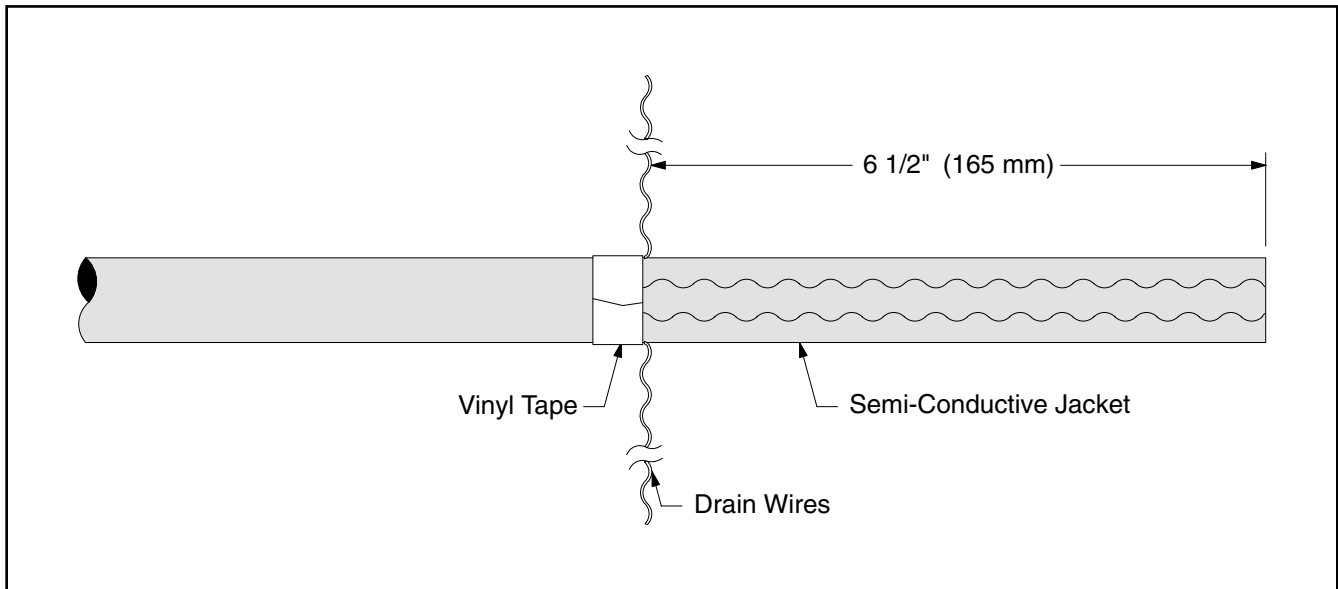

Figure 4
- Wrap a vinyl tape band around cable jacket at a point 6 1/2" (165 mm) from cable end and remove drain wires from semi-con jacket to leading edge of applied vinyl tape band (*Figure 4*).